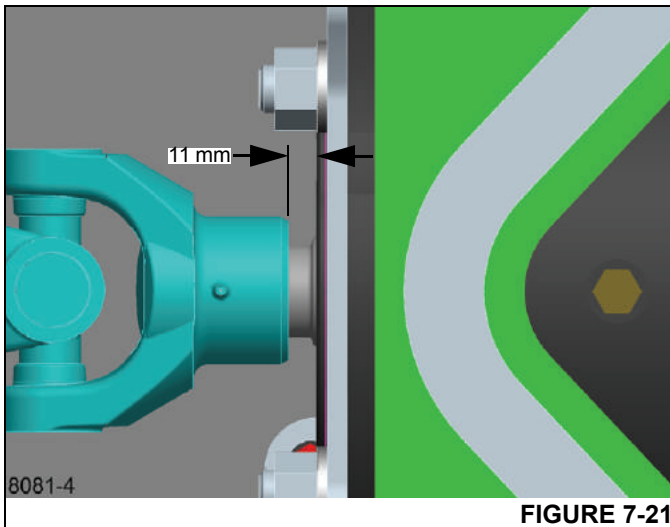

FIGURE 7-21
5. Adjust the clutch/mounting bracket/pump assembly fore and aft to position the driveshaft between 6 to 14 mm (0.24 to 0.55 in) from the clutch face (Figure 7-21).